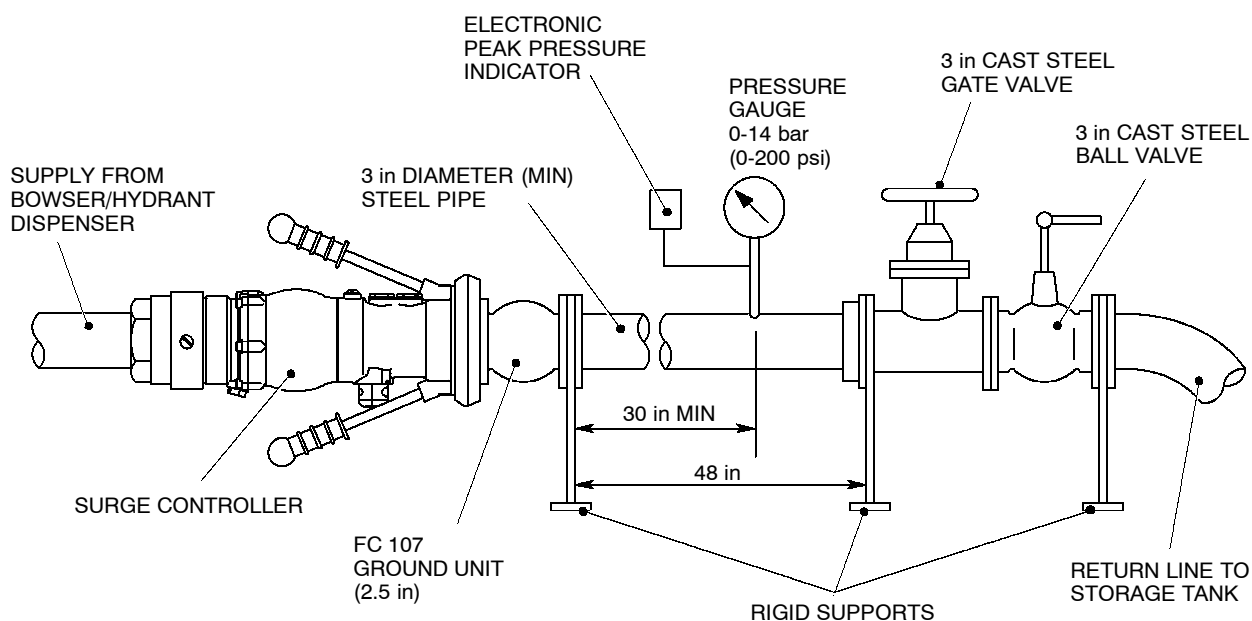

Fig 6.2 Dynamic test rig arrangements
- 6.1 Dynamic tests are carried out with the unit coupled to a test rig as shown in Fig 6.2. A pressure control test is carried out every six months, subject to local company instructions, to ensure the correct operation of the surge controller under dynamic conditions. A surge pressure control test, which is not a routine test, is carried out from time to time as a quality audit test.
- 6.2.1 Taking each hose unit in turn, connect it to the test rig (Fig 6.2). With a unit fitted with twin surge controllers, each controller must be tested separately with the other blocked out using a block out device (Para 3.3.1(c)) connected to the vent port and using an air pressure of at least 6 bar (85 psi).